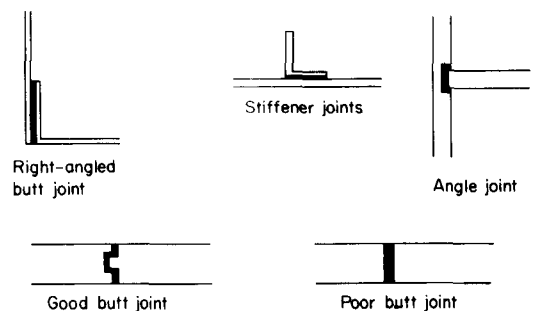

Fig. 4.158 Types of joints that can be made by using adhesives
**Types of joints.** Some of the joints that can be made by using adhesives are shown in Fig. 4.158.